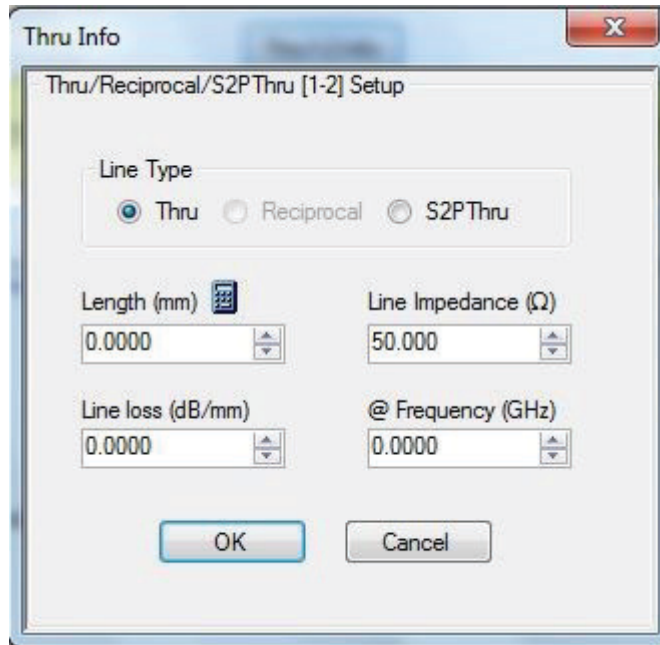

Figure 3-22. THRU INFO Dialog
7. Click on Thru1-2 Info and the THRU INFO dialog appears (see Figure 3-22) and verify that Length (mm), Line loss (dB/mm), and @Frequency (GHz) are set to 0.000.